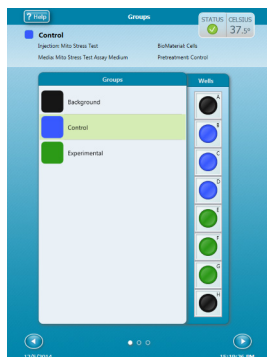

Figure 4. Groups
- 1 To see the conditions defined for a Group, touch the group name and look at the header information, as shown in **Figure 4**.